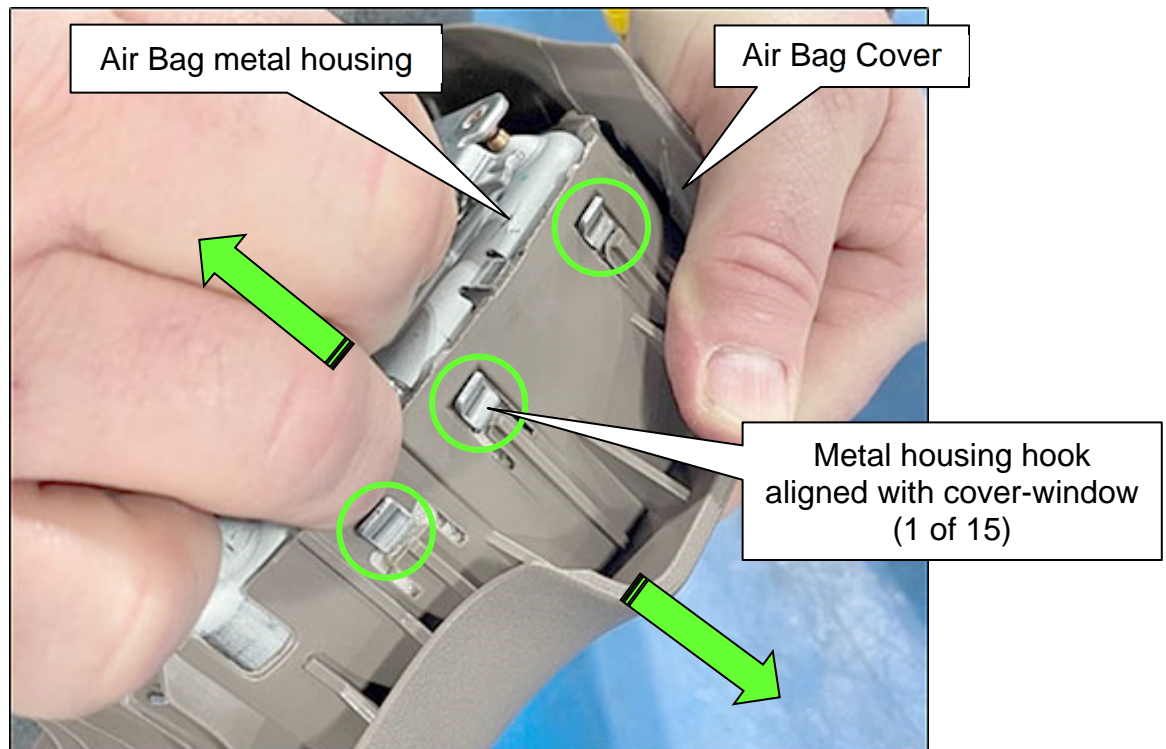

Figure 28
27. Verify that all fifteen (15) metal housing hooks are aligned and fully engaged into each associated cover-window.
28. Slowly pull the Air Bag metal housing and the Air Bag Cover apart (Figure 28) to lock all fifteen (15) metal housing hooks into each associated cover-window location.
- Three metal housing hooks (Figure 28) shown with associated cover-window, for reference.